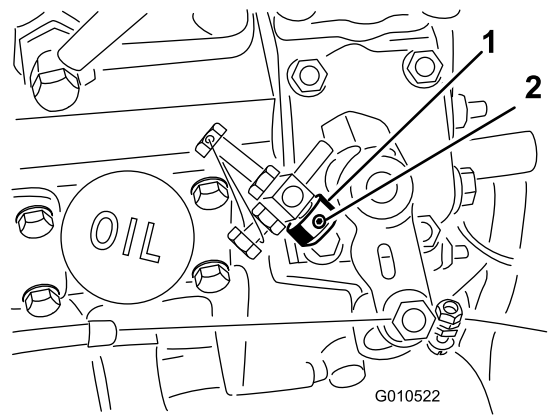

Figure 7
1. Loosen the setscrew on the throttle stop (Figure 7).
2. Slide the throttle stop onto the high-idle stop screw (Figure 7). Ensure that the chamfered end of the throttle stop is outward.